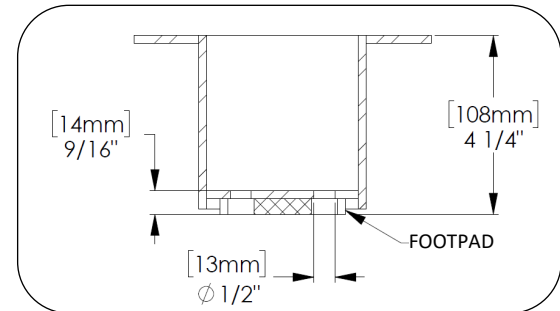

Fig. 2 – anchor detail
2. Mark anchor hole locations. Move support and drill holes according to anchor manufacturer's recommendations. Clear holes of debris. See Fig. 2.